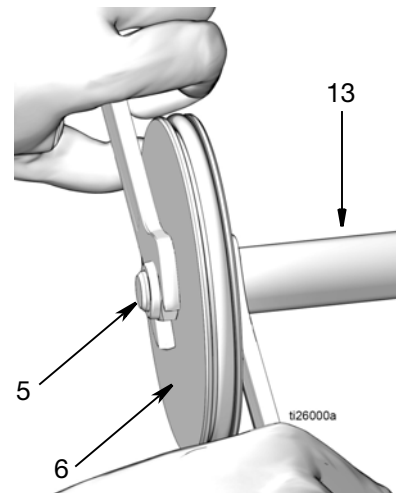

FIG. 19
15. Piston Rod (13) and Piston (6)
- a. Pull piston rod (13) and piston (6) out of air cylinder (2) (FIG. 19).
- b. To separate piston rod (13) and piston (6) use two wrenches, working in opposite directions. Secure one open end wrench to flats of piston rod and the second wrench is used to loosen the nut (5) as shown in FIG. 19.